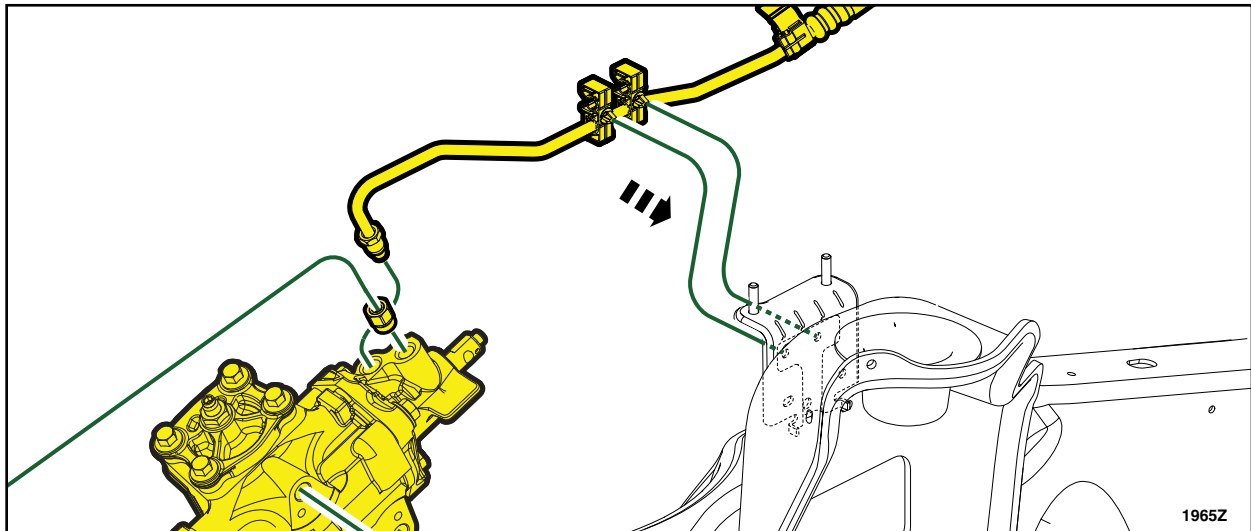

FIGURE 29
9. Connect the pressure hose retaining clip into the inboard strut tower. See Figure 29.